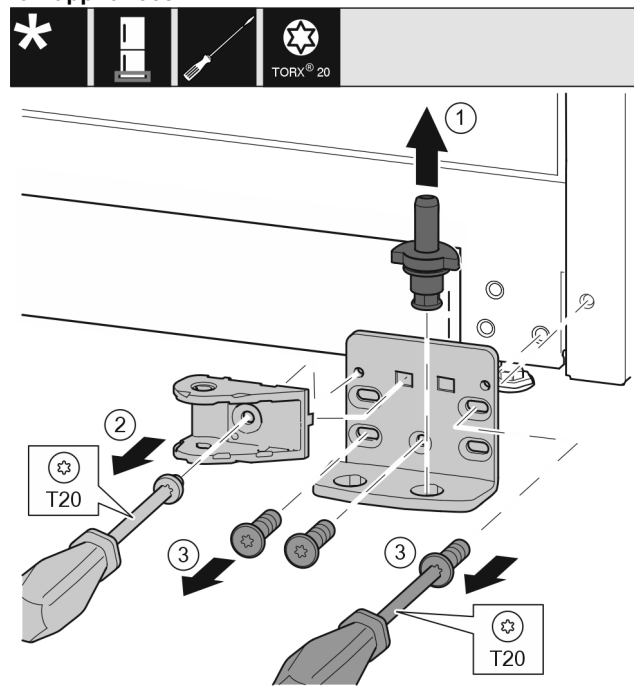

Fig. 34 *
- ▶ Lift the bearing pin completely upward and pull it out. Fig. 34 (1)*
- ▶ Take out the screw with a T20 screwdriver and take off the soft stop connection. Fig. 34 (2)
- ▶ Take out the screws with a T20 screwdriver and take off the bearing bracket. Fig. 34 (3)*